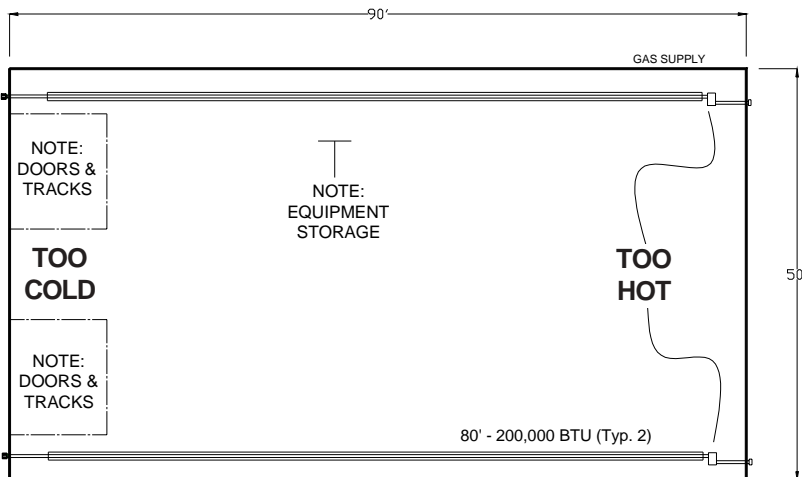
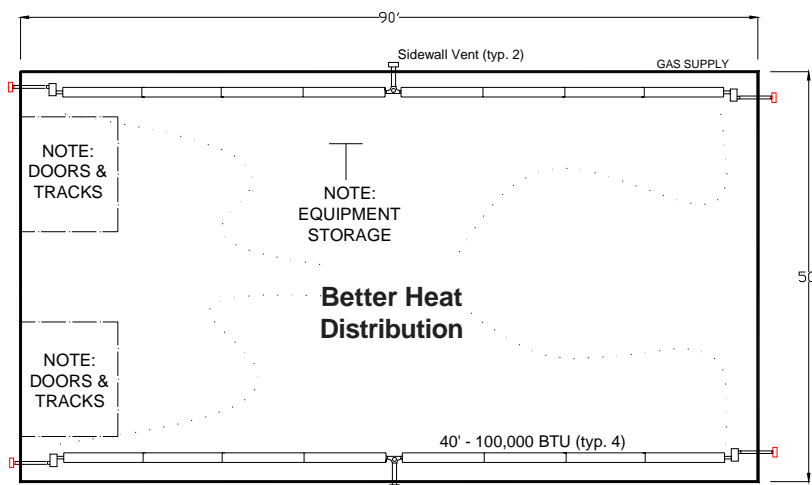

Figure 2-1: Sample Layout (Incorrect).
Figure 2-2: Sample Layout (Correct).
The figures shown below are of a sample building 90'(L) x 50'(W) x 14'(H) requiring 400,000 BTU's, both heated with 160' of radiant pipe. Figure 2-1 is an example of a poorly designed system. This figure places two burners on one end, the end opposite the highest demand, violates the minimum mounting height and will produce uneven heating. Figure 2-2 utilizes 4 burners, one placed in each corner of the building. This is a far better design than illustrated in figure 2-1.